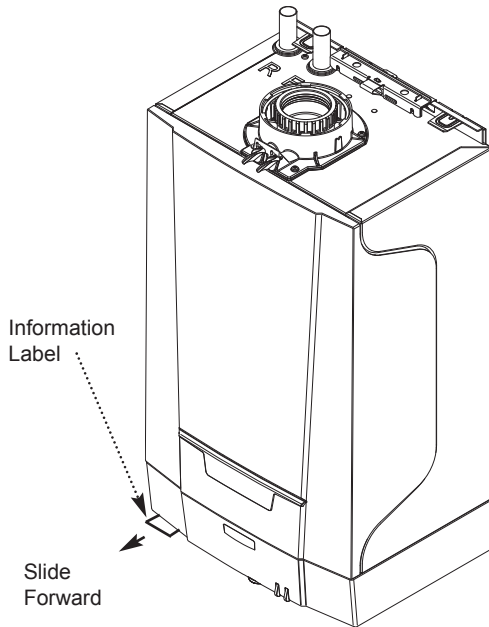

Fig. 3
4. The boiler model, serial number and Gas Council number are shown on the information label under the boiler (Fig. 3). This is for user reference.